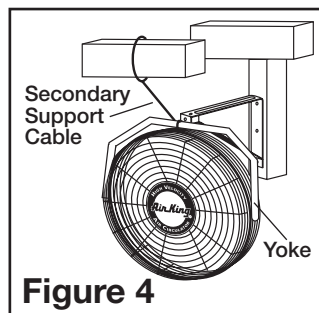

Figure 4
3. Wrap the other end of the Cable around a secure building joist, truss, or other support near the Fan (**Figure 4**). Take up all excess slack in the Cable.